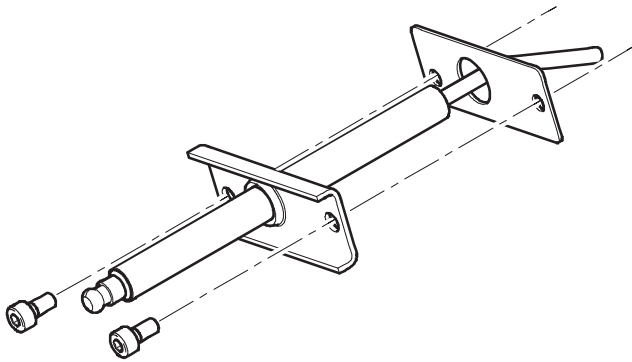

Figure 29: Ionization Electrode (Flame Rod)
- Install igniter as shown in Figure 29.